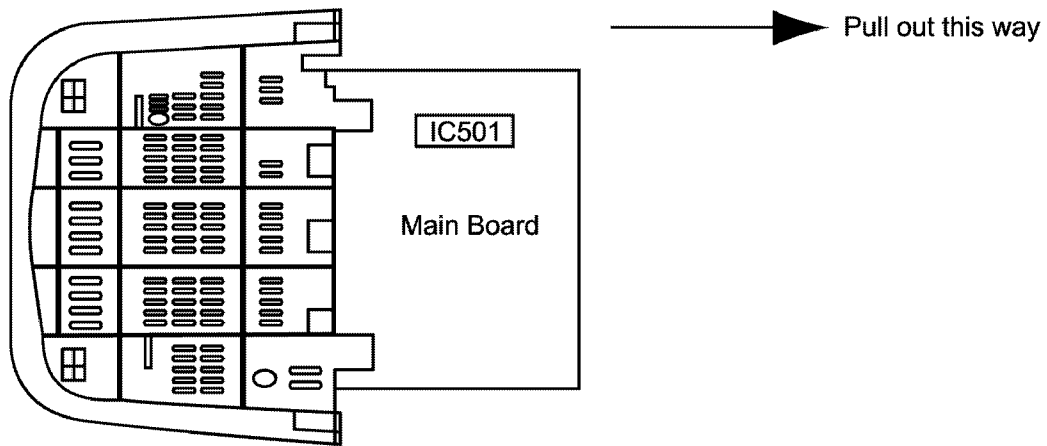

Fig. 2
2. Stand the TV set as shown in Fig. 2.
3. Remove the a-board from the TV set by pulling the main board out as shown in Fig. 2.